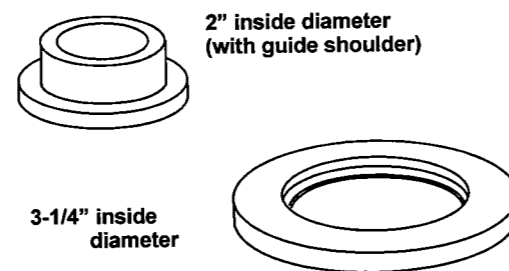

FIGURE 12
Two table inserts (A), Figure 12, are included for use with your shaper. The two inserts have openings of 3-1/4" and 2". The smaller insert also has a guide shoulder for shaping without using a collar.